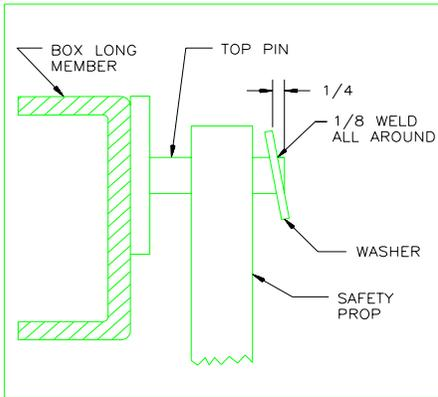

Figure 19: Safety Prop Assembly
3. Assemble the washers and Safety Prop to the Top Pin and weld as shown in Figure 19.